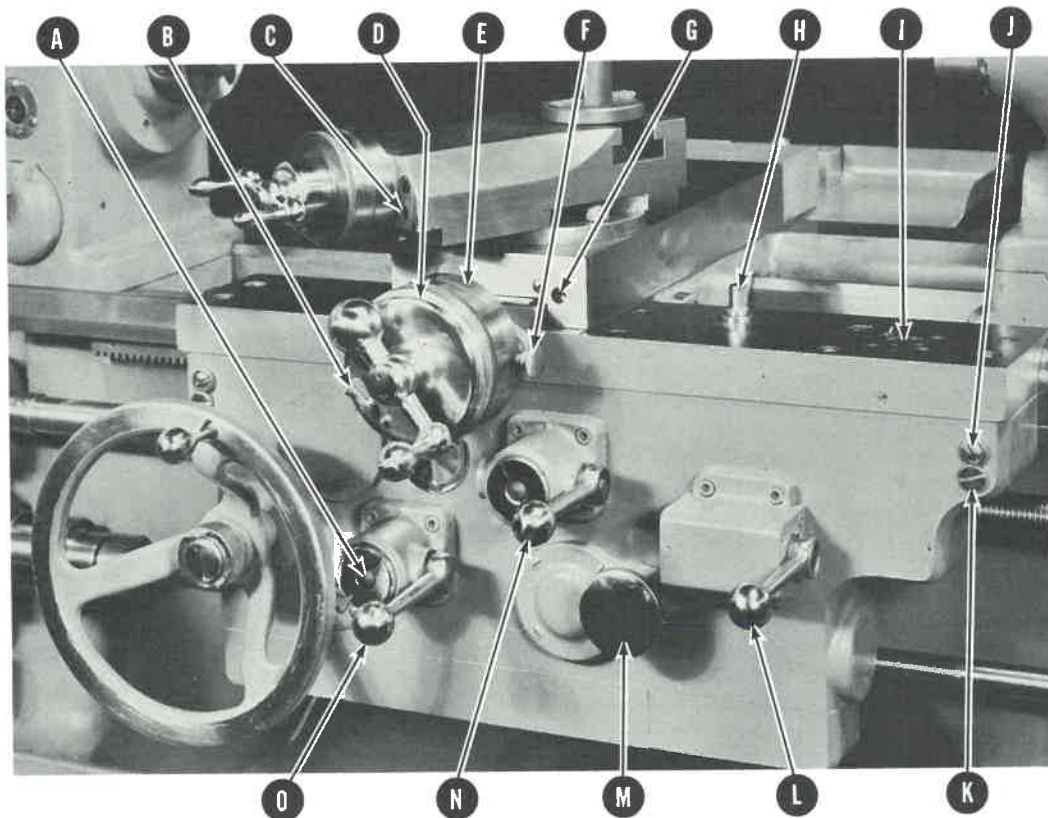

FIGURE 7. Apron and Carriage
Figure 7 shows the operating controls of the apron and carriage.
<p>2. Apron Frictions</p>	<p>Clockwise rotation of nut (A) Figure 7, Page 6, tightens the friction. It should be adjusted so that the lever becomes tight at about a 45° angle down. The cross feed friction is adjusted in the same manner.</p>
<p>3. Cross slide and Compound Slide Gibs</p>	<p>Screws (G) and (C) Figure 7 are for adjustment of the cross slide and compound gibs. There is a similar screw adjustment at the rear of each slide.</p> <p>The gibs should be adjusted to give a slight drag to the slides. If the adjusting screws are drawn too tightly against each end of the gib, they may create a bad bearing surface by throwing the gibs out of alignment.</p>
<p>5. Anti-Friction Carriage Gibs</p>	<p>Loosen lock screw (J) Figure 7 and turn eccentric stud (K) until anti-friction bearing just rolls as carriage is moved along bedways. Do not adjust too tight. Retighten lock screw.</p>